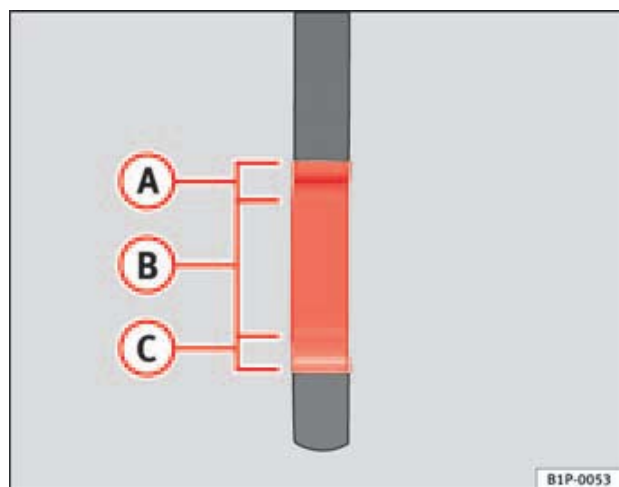

Fig. 144 Engine oil dipstick.
- Pull the dipstick out again and check the oil level ⇒ fig. 144.
If the oil level is in area ⇒ fig. 144 **(A)**, do not top up with oil.